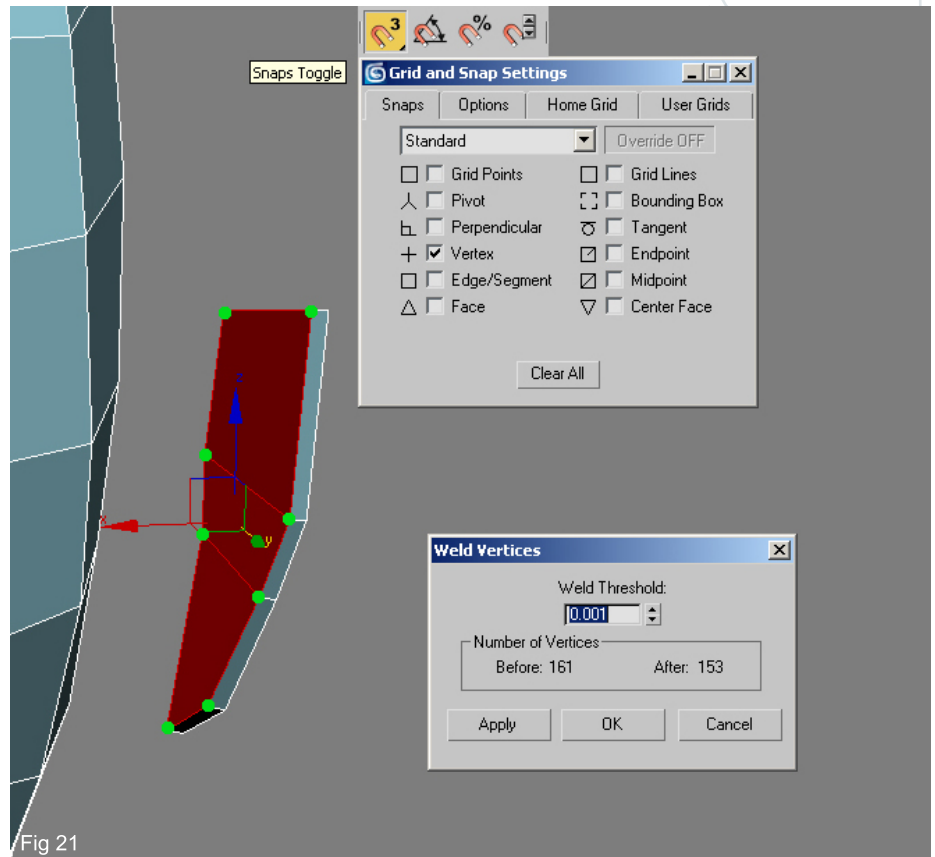

Fig 21
21. We now have a rough ear shape but you will notice that on the opposite side there is a hole. To fix this, copy the same selected faces using the same technique we have just used and rotate them around 180 degrees. Now all we need to do is attach them to the other side. Select the 3D Snaps tool on the toolbar (highlighted in yellow –top of Fig21), right click on it and tick vertex under the snaps settings. Now select the vertices on the new faces and drag over to the corresponding ones on the ear to patch up the hole indicated by the green dots. With these verts now in place select all the verts on the ear and click on the little tab next to “Weld” in the modify panel. In the dialogue box alter the threshold to 0.001. You will notice that we have a discrepancy of 8 between the before and after – this corresponds to the 8 verts that we have snapped to the other 8. We can only see 8 but there are in fact 16 separate ones and so by hitting OK we are welding this 16 into 8 and so reducing the count from 161 to 153. In other words if two verts occupy the same space they may as well be one.